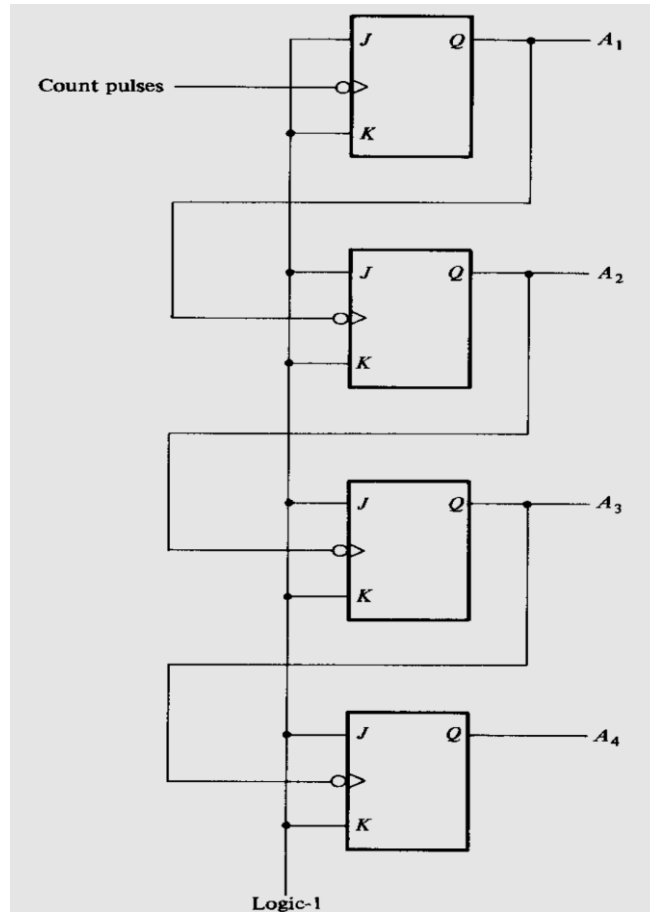

Figure 9.1: 4-bit binary ripple counter
- The state diagram provides the same information as the state table. The Fig. 9.1 shows the state diagram for the state table mentioned in Table 8.1.
- Four-bit binary ripple counter is shown in Fig. 9.1